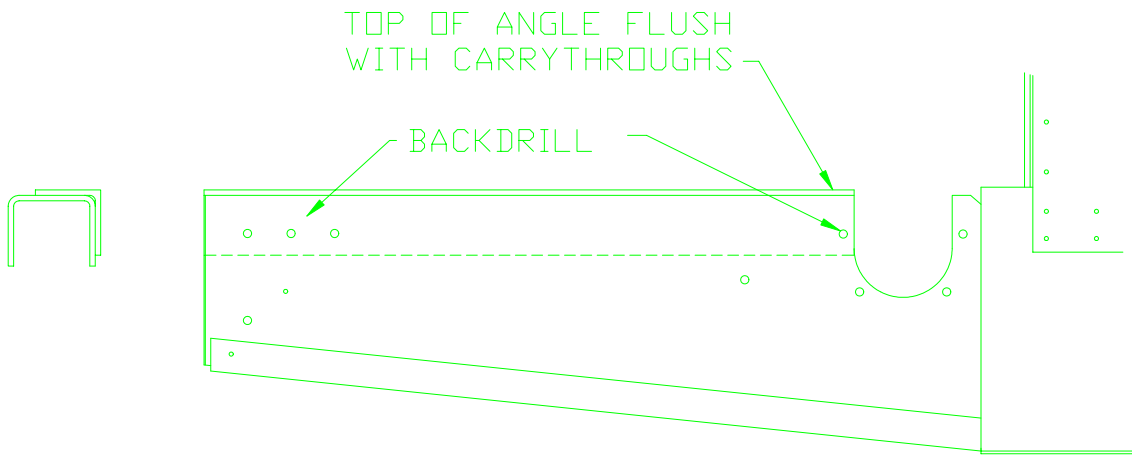

FIGURE 7
- 9) Position the left 14 15/16" angle on the inside of the left FUS-325 shear web. The top of the angle must be flush with the top of the side to side carrythroughs **NOT** the shear webs. Back drill the three angle holes into the shear web and the one shear web hole into the angle. Figure 7.